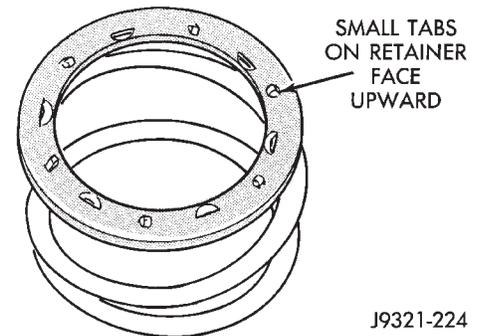

Fig. 179 Correct Spring Retainer Installed Position
- (6) Position spring retainer on top of piston spring (Fig. 179). **Make sure retainer is properly installed. Small raised tabs should be facing upward. Semicircular lugs on underside of retainer are for positioning retainer in spring.**